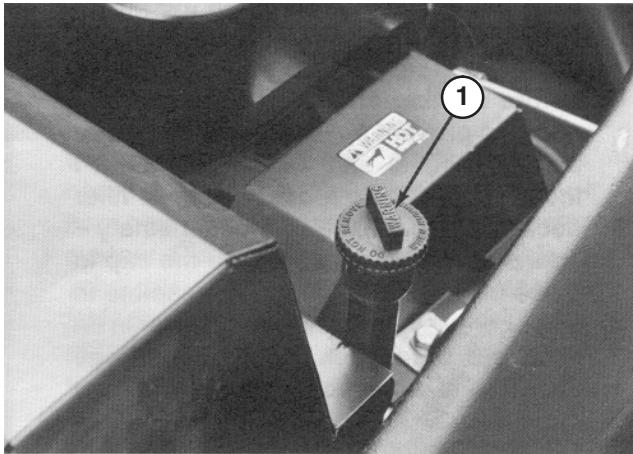

Figure 3
2. Unscrew the dipstick (Fig. 3) and wipe it with a clean rag. Screw the dipstick into the filler neck and make sure it is seated fully. Unscrew the dipstick out of the filler neck and check the oil level. If the oil level is low, add enough oil to raise the level to the FULL mark on the dipstick.